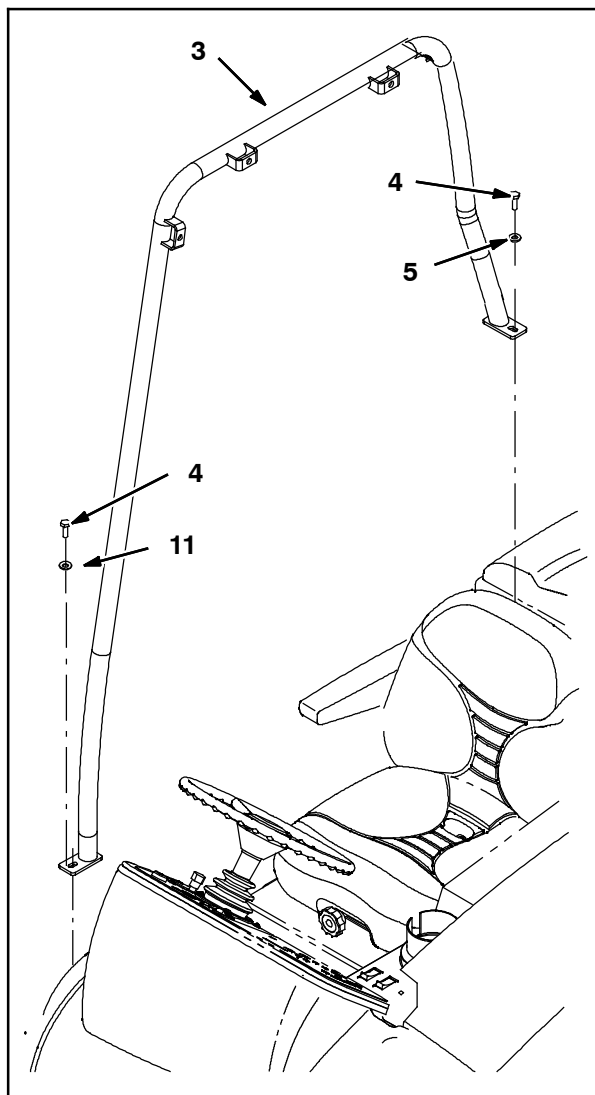
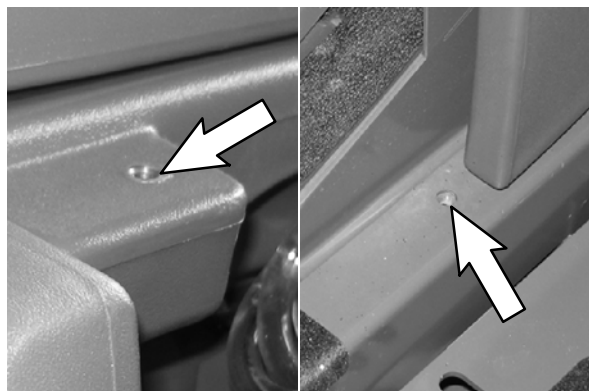

FIG. 6
FIG. 7
6. Use two hex screws (4) and two flat washers (5) and (12) to install the right overhead guard tube (3) onto the machine. Do not completely tighten the hex screws since it may be necessary to move the right tube when installing the rest of the kit. (Fig. 6 / Fig. 7)